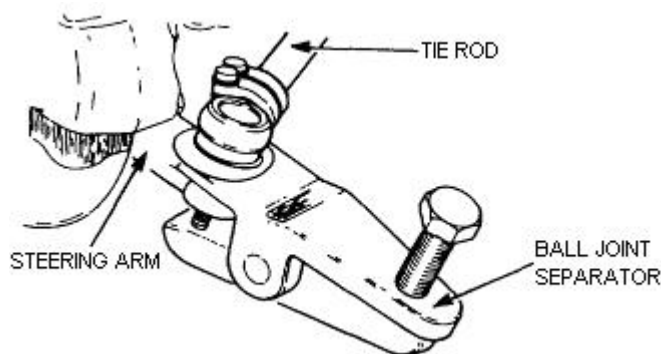

Figure 129 Tie Rod Removal
- g. Using the ball joint separator (Table 3, Serial 13), disconnect the tie rod ball joints at the steering arms (Figure 129).